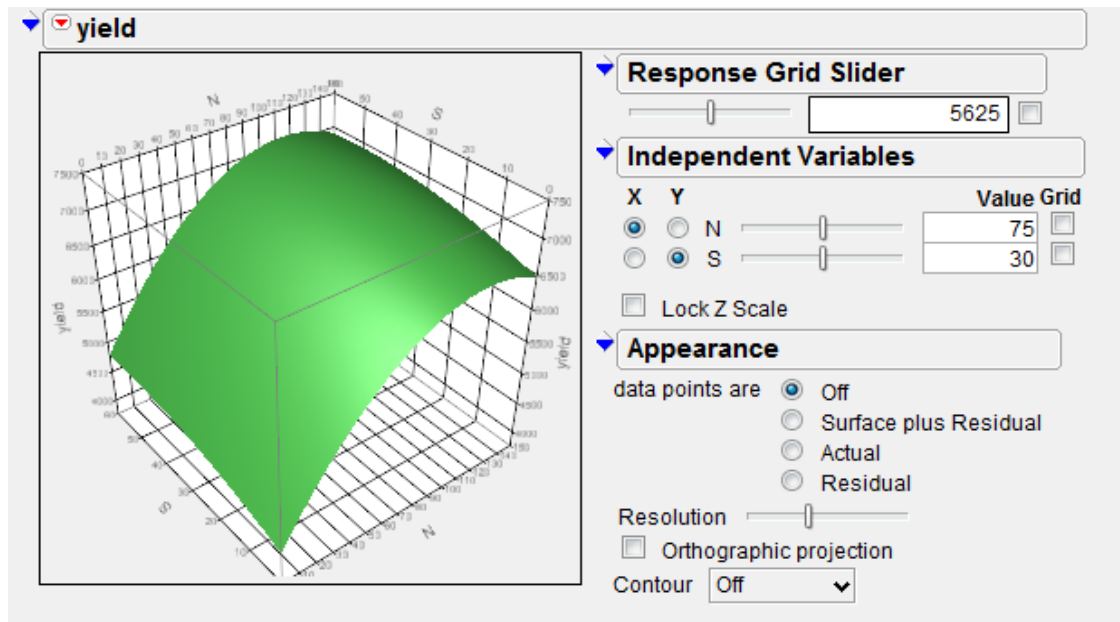

Figure 5.13.3: Surface Profiler Output
4. If one wants to get Surface Profiler plot then go to hotspot button on the left of **Response Yield** → **Factor Profiling** → **Surface Profiler**. See Figure 5.13.3 for surface profiler output.